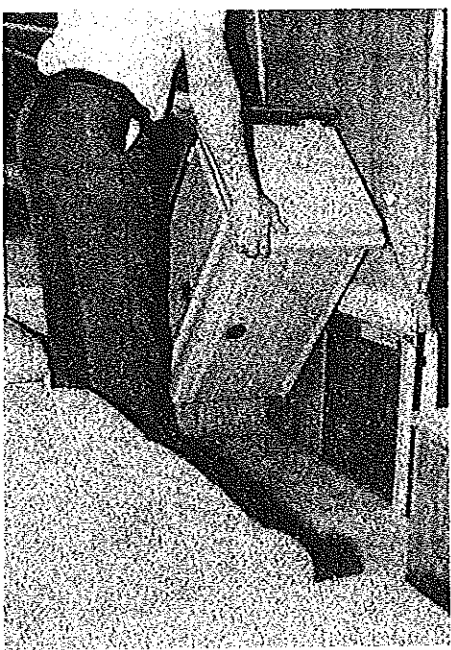

FIGURE 17
22. Grasp the closet and raise the assembly until vertical. (See Figure 17)